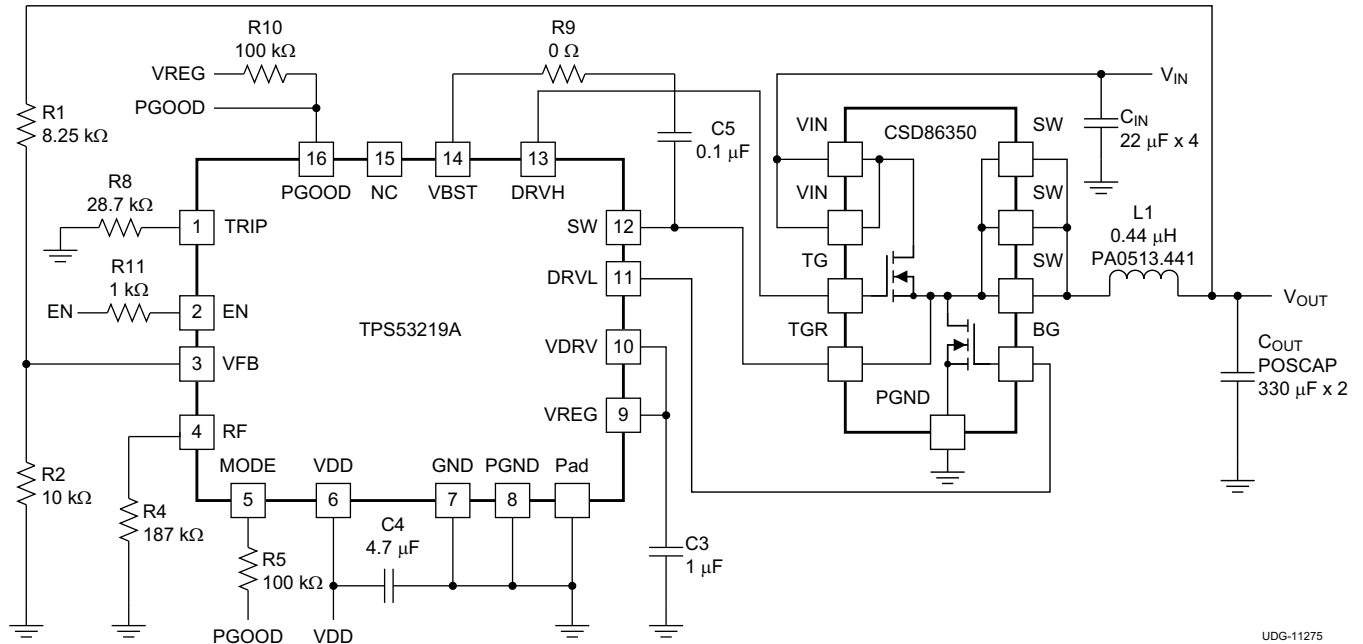
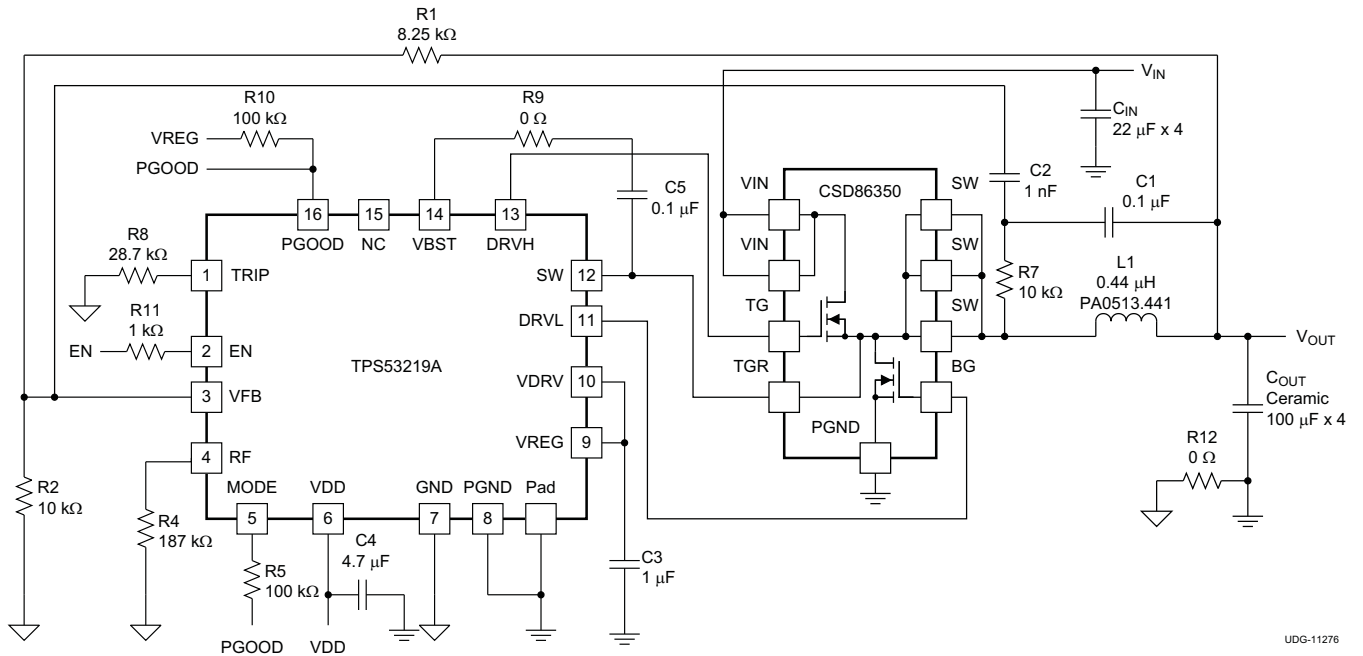

Figure 17. Typical Application Circuit Diagram with Power Block
Figure 18. Typical Application Circuit Diagram with Ceramic Output Capacitors
(1) Not production tested. Test conditions are V_{IN} = 12 V, V_{OUT} = 1.1 V, I_{OUT} = 10 A and using the application circuit shown in Figure 17 and Figure 18.